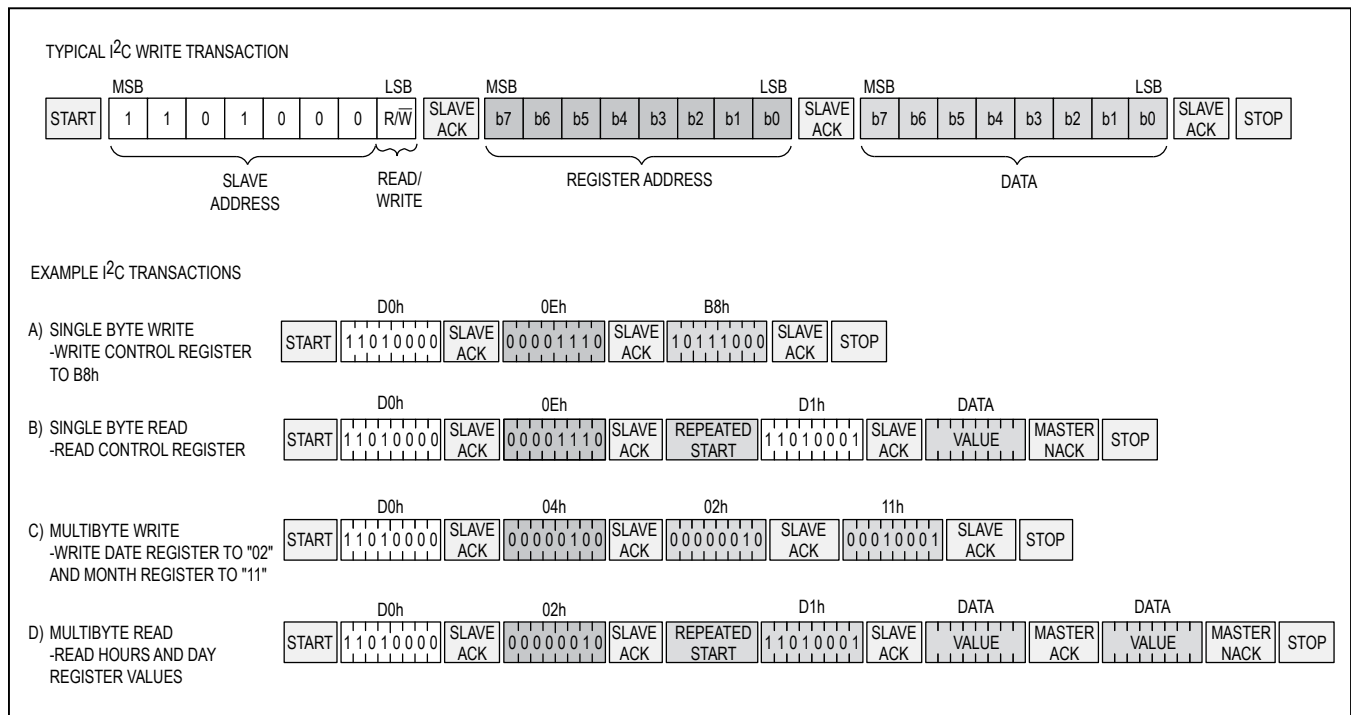

Figure 5. I2C Transactions
**Manipulating the Address Counter for Reads:** A dummy write cycle can be used to force the address counter to a particular value. To do this the master generates a START condition, writes the slave address byte ( $R/\overline{W} = 0$ ), writes the memory address where it desires to read, generates a repeated START condition, writes the slave address byte ( $R/\overline{W} = 1$ ), reads data with ACK or NACK as applicable, and generates a STOP condition. See Figure 5 for a read example using the repeated START condition to specify the starting memory location.